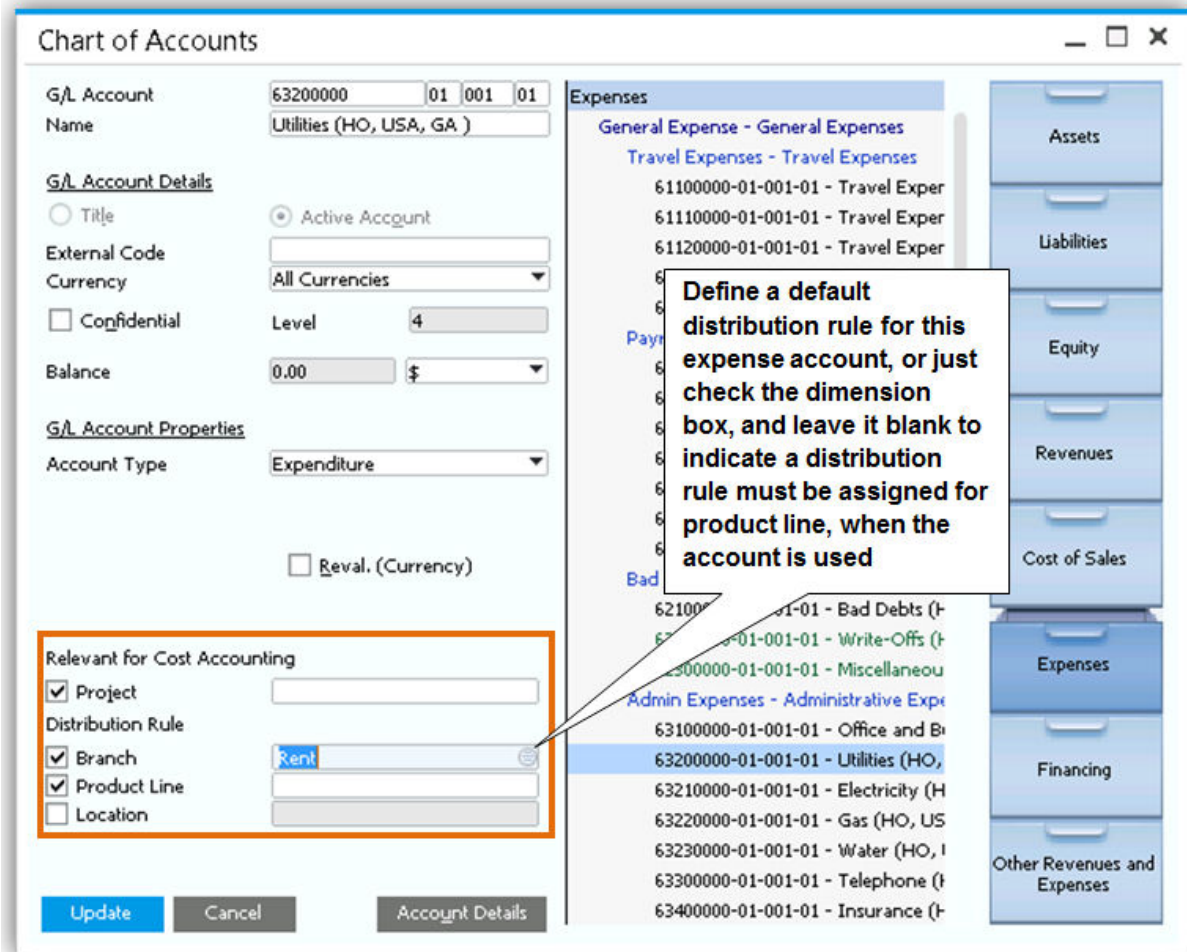

Figure 3-17: Assigning Distribution Rule to accounts
**Projects:** using projects is separate from cost accounting; however it provides similar functionalities. Projects are used for plans that the company is working on, and would like to the ability to track transactions by project. You can assign a project to an account, as shown in figure 3-17, or assign it at the transaction level. The selected project is registered in the journal entry, so you can run financial reports by projects.